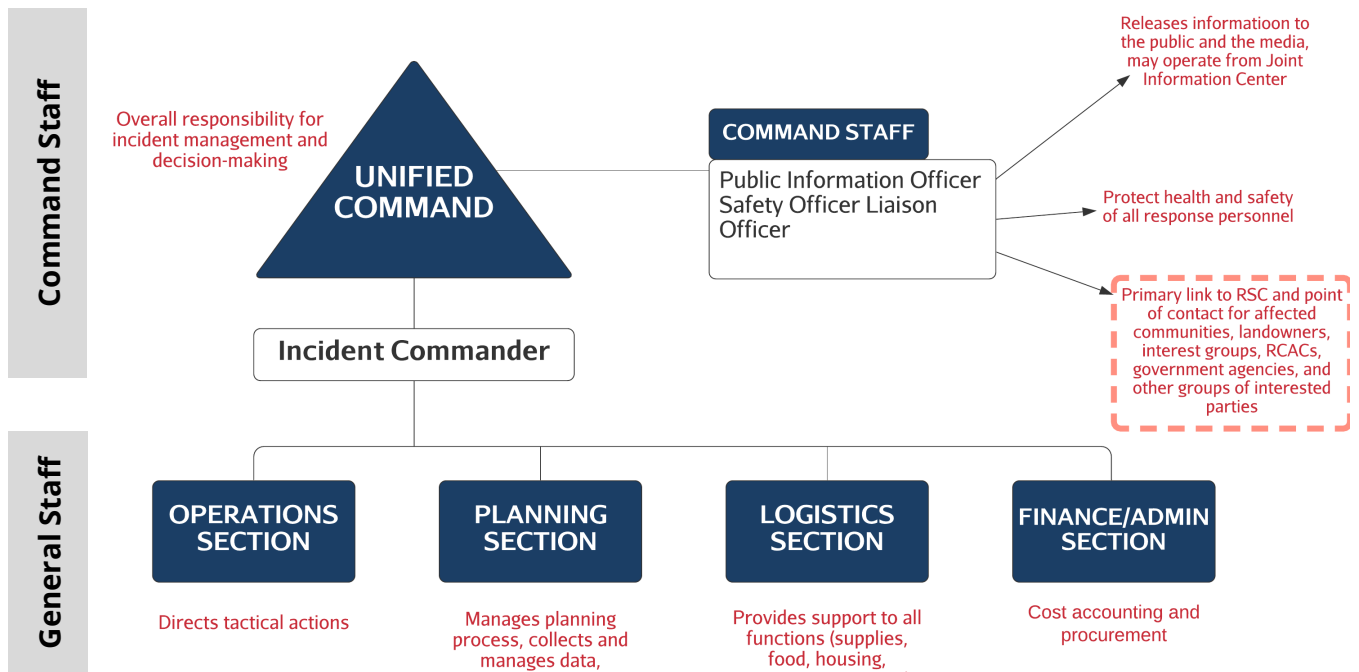

Figure 1: Key functions of Command and General staff in the Incident Command System
- **General Staff** are the positions that report directly to the Unified Command, which are organized in four Sections as shown in Figure 1: